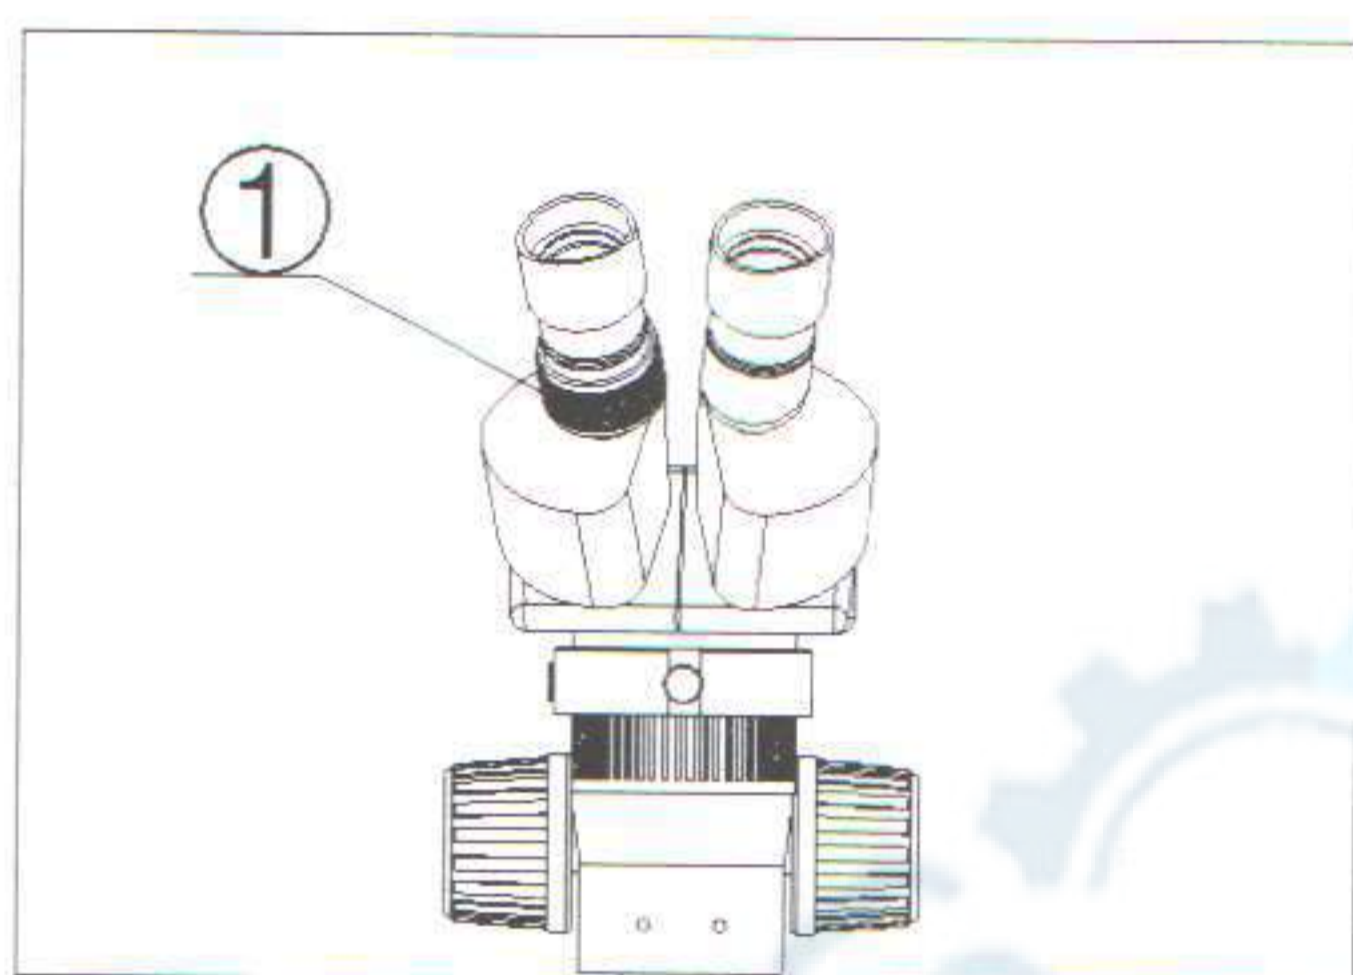

Fig. 3
- 2) Observe the specimen through the left eyepiece and adjust the diopter adjustment ring ① till the image is clear. (Fig. 3)